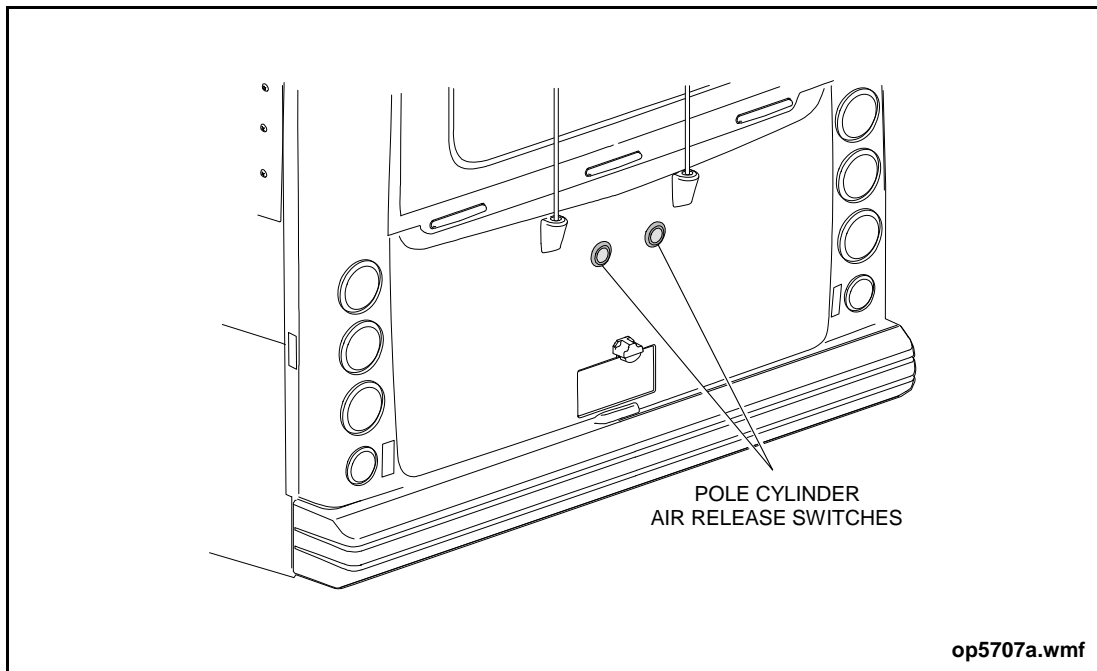

Figure 34: Pole Cylinder Air Release Switches
4. Move to the rear of the vehicle and press the air release switch for the positive (street-side) pole. See “Figure 34: Pole Cylinder Air Release Switches” on page 110.